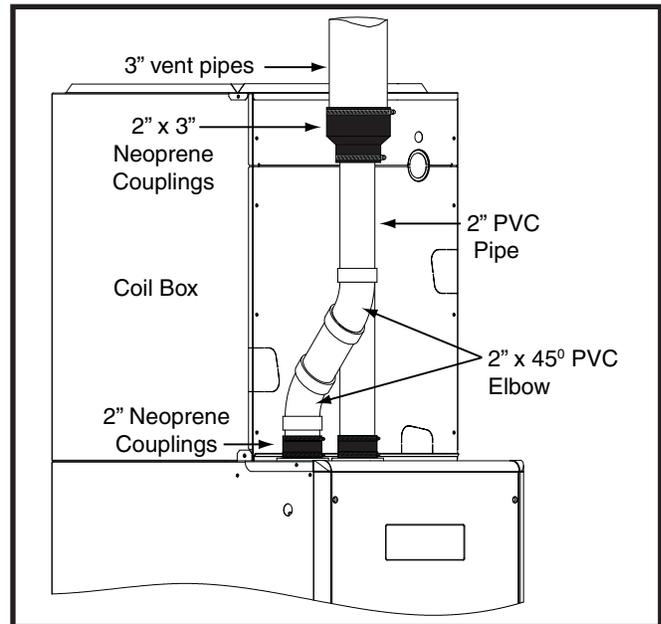

Figure 33. Alternate vent Pipe Installation
- To increase the size of the PVC flue from 2" to 3", you may use two, 2" x 45° PVC elbows to achieve the clearances needed between the coil box and the 2" x 3" neoprene coupling. See Figure 33.